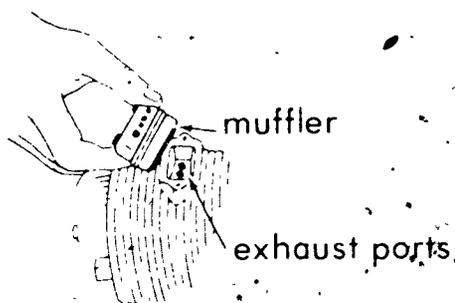

FIGURE 1
- A. Remove muffler and any mounting gaskets (Figure 1).